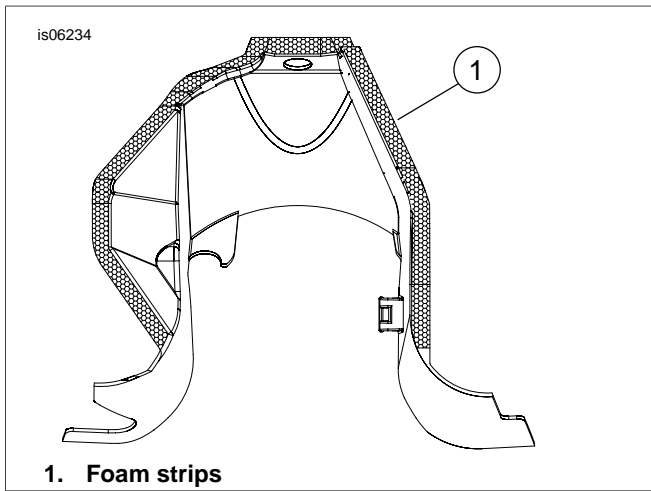

Figure 2. Apply Foam Strips to Front of Air Duct
2. See Figure 2. Cut and install foam strips (1) to the front lip of the air duct.